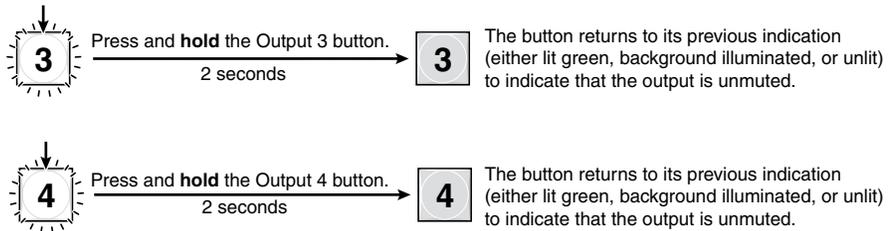

Figure 3-54 — Unmute the outputs
5. **One at a time**, press and **hold** the Output 3 button and then the Output 4 buttons (figure 3-54) for approximately 2 seconds until each button returns to its previous state. The output 3 and output 4 video and audio signals are unmuted.